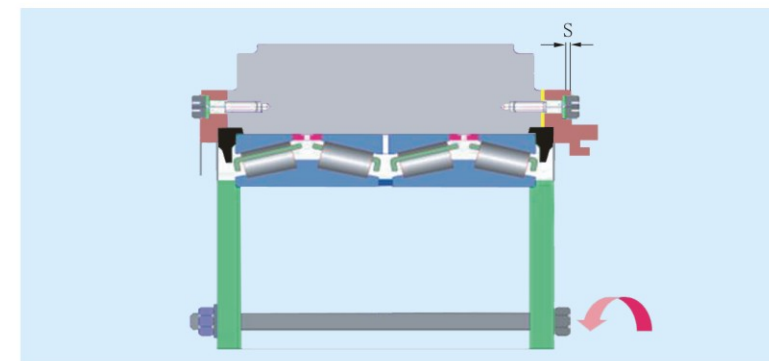

Fig 7-10 : Turning in with the clamping fixture
2. Brace the clamping fixture on the cone faces with the tie rods, slightly at first. The clamping fixture must touch only the cone faces. The cage must not get jammed (Fig 7-9). For sealed bearings, the lifting device also serves as clamping fixture. (Fig 7-10)